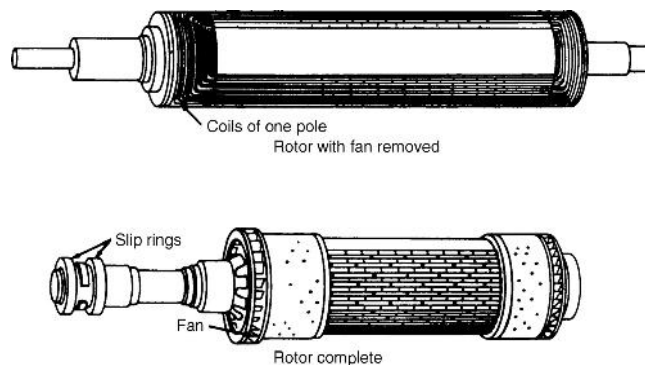

Fig. 19-4 Turbo-type rotor for an alternator.
Compare the salient-pole rotor and Fig. 19-4, which has a turbo-type rotor.
When the ac generator is to be driven by a slow speed diesel engine or by a water turbine (up to 720 rpm), the salient-pole or projecting-pole rotor is used. The field poles are formed by fastening a number of steel laminations to a spoked-frame or spider. The heavy pole pieces produce a flywheel effect on the slow-speed rotor. This helps to keep the angular speed constant. It also reduces variation in the voltage and frequency of the generator output. In high-speed alternators (up to 3600 rpm), the smooth-surface turbo type rotor is used for two major reasons: (1) it has less air-friction (heating) loss, and (2) the windings can be placed so that they can withstand the centrifugal forces developed at high speeds. Turbo-type rotors are a solid-steel forging, a number of steel disks fastened together with the field coils locked in slots. These field coils are usually placed so they distribute the field flux evenly around the rotor, as shown in Fig. 19-4.